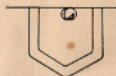

Fig. 5
*"Cutting of Records"* may be caused by an improper adjustment of the height of the reproducer, which causes the limit pin to touch the cup (see figure 5). The dealer will be pleased to adjust it.